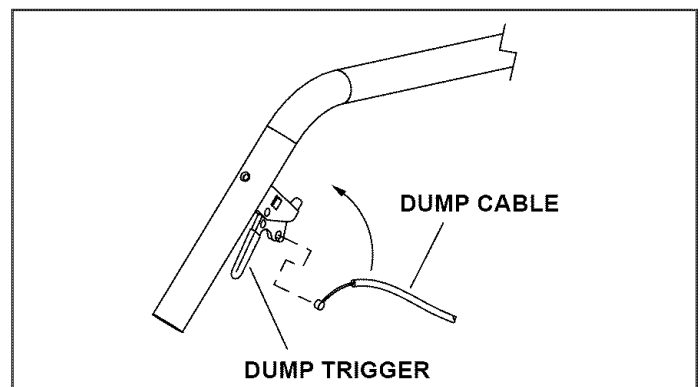

FIGURE 15
- Squeeze the dump trigger and slide the anchor end of the dump (long) cable wire into the hole in the trigger. Release the trigger and guide the cable wire through the slot in the bottom of the trigger and trigger housing. Insert the end of the plastic cable covering into the trigger housing. See figure 15.